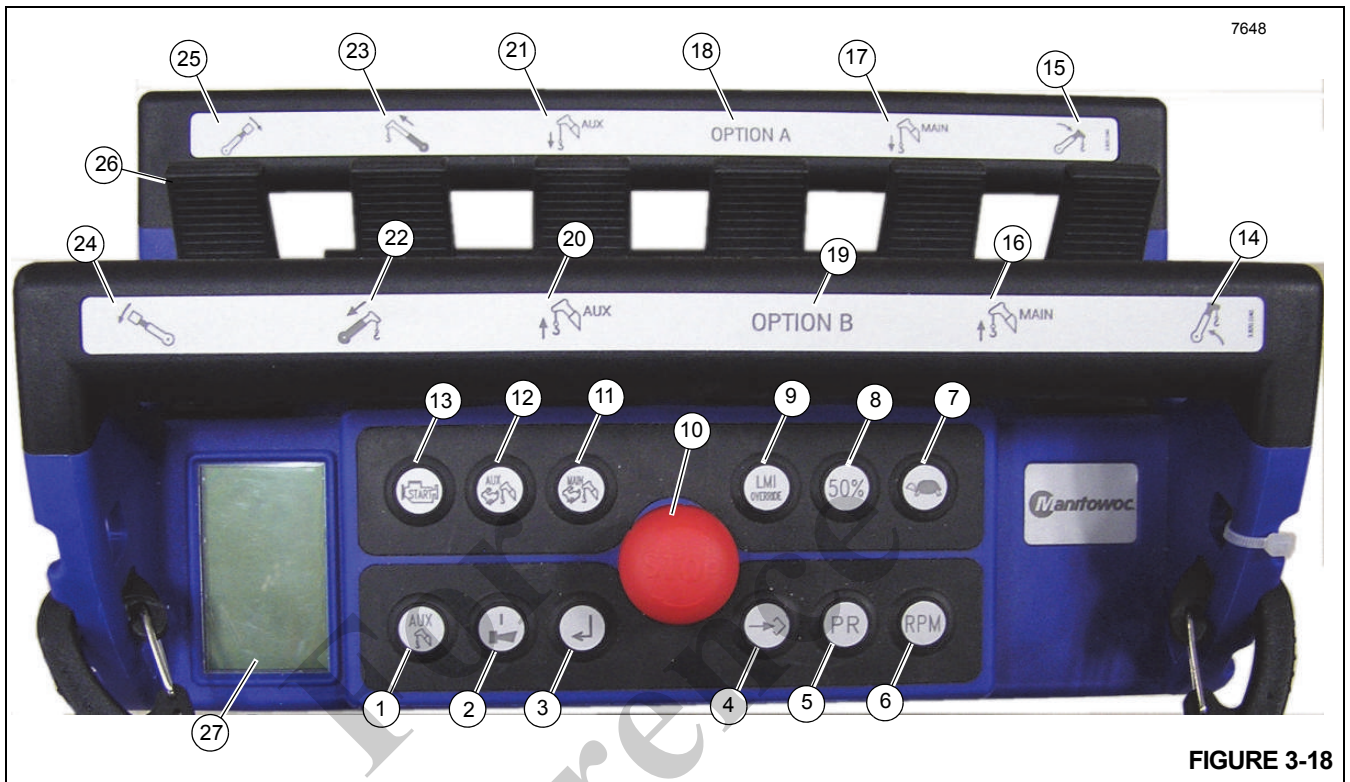

FIGURE 3-18
The optional Crane Remote Control (Figure 3-18) will allow full remote control of the crane. The standard Remote Control is disabled when using the optional Crane Remote Control.
The LCD Screen (27, Figure 3-18 and Figure 3-19) on the display is used to communicate signal strength, battery level, wireless channel, remote status, and the configuration of the machine based upon which buttons are depressed. RCL information is also displayed to the operator and can be toggled by pressing the Toggle Crane RCL Screen button (3). The following RCL information is available to the operator on the LCD screen:
To use this remote, the red STOP button (10, Figure 3-18) must be activated to turn ON the transmitter. To control the crane, the ON/Horn button (2) must be pressed to activate the remote. The crane horn will sound as confirmation that the remote is now active. The crane can now be started by pressing and holding the Engine Start button (13). The remote can now be used to control the crane. To activate a function move the joystick (26) that corresponds to the desired movement.
1. To use this remote, the red STOP button (10, Figure 3-18) must be activated to turn on the transmitter.
2. Press the ON/Horn button (2) to activate the remote. The crane horn will sound as confirmation that the remote is now active.
3. Press and hold the Engine Start button (13) to start the crane. The remote can now be used to control the crane.
4. Move the joystick (26) that corresponds to the desired movement to activate desired function.
5. Press the red STOP button (10) when finished with the remote. This will shut off the crane.